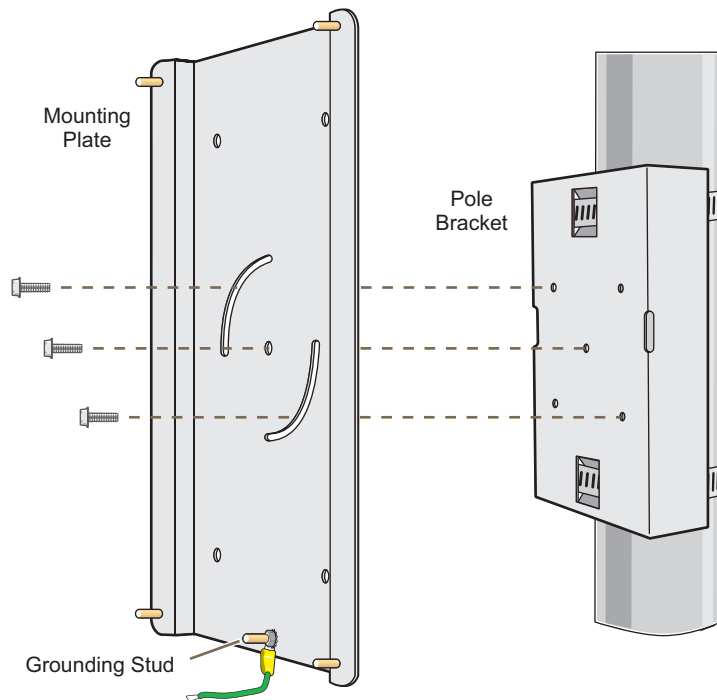

Figure 4. Attach the mounting plate to the pole bracket.
2. Position the end of the mounting plate with the grounding stud at the bottom, and align the center hole with that on the pole bracket. Then use the three 10-32 machine screws to attach the mounting plate to the pole bracket, as shown in Figure 4.